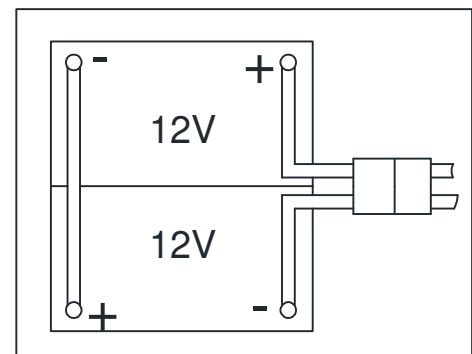

Figure 3
The machine requires two 12 V batteries, connected according to the diagram (Figure3).
- Open the recovery tank cover (1) and check that the recovery tank (25) is empty; otherwise empty it with the drain hose. (22)
- Close the recovery tank cover (1).
- Overturn the recovery tank (25) carefully.
- Route and install the battery cable as shown in (Figure 3), then carefully tighten the nut on each battery terminal.
- Place the protection cap on each terminal, then connect the battery connector (54).
- Carefully lower the recovery tank (25).